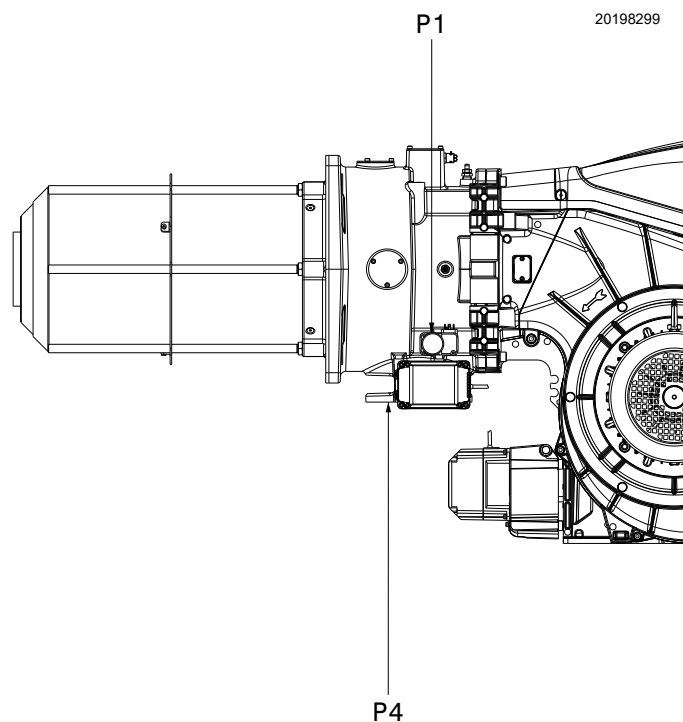

Fig. 24
- subtract the combustion chamber pressure from the gas pressure measured at test point P1 (Fig. 24).
To calculate the required gas pressure at test point P1)(Fig. 24), set the MAX output required from the burner operation: